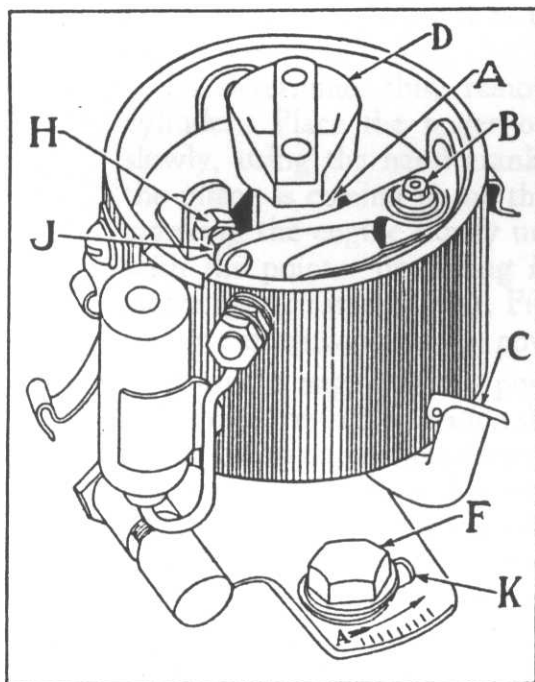

Figure 3
The oil cup (C), Figure 3, should be filled with oil every 2,000 miles. At the same time remove the distributor cap (not shown) and rotor arm (D), placing a few drops of oil on the wick in the top of the shaft, one drop of oil on the breaker arm pivot (B), and apply a light coating of vaseline on the cam block (A).
With the engine in this position the rotor arm (D), Figure 3, of the distributor should be in the position shown in the illustration. When the distributor cap is put in place, the metal strip on the rotor arm should be directly under the terminal to which number one spark plug wire is attached. The other cables should be in the cap terminals in the order 1-5-3-6-2-4, following in a clockwise direction. The cable in the center terminal of the distributor cap should go to the central (high tension) terminal of the ignition coil.
Loosen the distributor clamp screw (F), Figure 3, and turn the distributor until the fiber block (A) of the breaker arm is on the highest point of the cam. Measure the gap between the breaker points with a feeler gauge. This gap